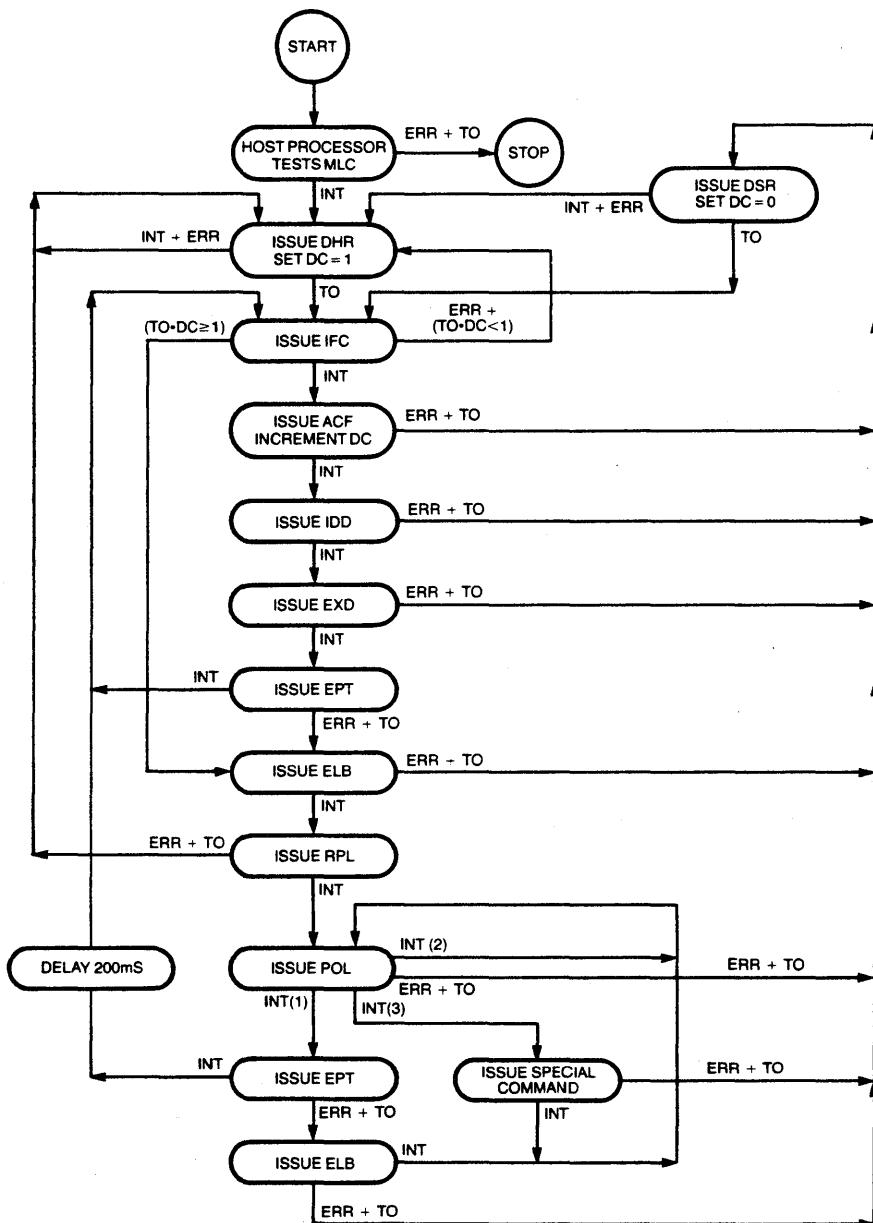

Figure 4-1. System Control Diagram
The control of the Link by the System is shown graphically in Figure 4-1. This diagram is not a state diagram, but is intended to show how the System deals with configuration, error recovery, polling, adding devices, and special commands. The notation used in Figure 4-1 follows:
### Notes for Figure 4-1:
Referring to Figure 4-1, the control process for HP-HIL can be broken up into four major areas of operation. These are configuration and error recovery, polling (data collection), adding devices to the Link, and handling special commands. Note that control of HP-HIL from the System is based upon timing or interrupts which cause the System to take action. Because of this, the controlling software will generally not be running continuously, but will be part of a larger interrupt driven environment. Thus, after an action has been taken, during the waiting for a condition to become true and cause the next action to be taken, the host processor will generally be doing other unrelated tasks.
At this point, the configuration process begins. This process can be seen as a loop in Figure 4-1, consisting of IFC, ACF, IDD, EXD, EPT, and back to IFC. The goal of the configuration process is to assign a unique address to each device on the Link, placing all but the last into Pass-Thru Mode. In the process each device may be requested to identify itself and report parameters necessary for scaling the device data to the System and utilizing any advanced features of the device.
Referring again to Figure 4-1, after the configuration of all devices has been completed, the next action to occur is the issuing of the RPL (RePoll). RPL is placed here as part of the error recovery process. If devices transmitted data, and an error occurred during polling, the Link would be reconfigured, and the lost data may be retrieved by the RPL command. If the Link is being configured for the first time, and polling has not yet started, the RPL command will not have any effect.
After the RPL command returns, the POL (Poll) command is sent. The System controlling the Link will remain in this oval most of the time. As explained above, polling can take place on a automatic (Auto Poll) basic or on an individual basis. To continue polling, control returns to the same oval, along the path marked with note (2). No other commands are required between polls. Errors or timeouts transfer control to the DSR oval at the top right of Figure 4-1. Two other conditions may cause polling to suspend. These are checking for added devices on the Link and processing special commands (e.g., Write Register).
When other commands are to be issued, the polling process is exited and the System then proceeds with the new command. This is shown in Figure 4-1 with control transfer occurring along the route marked with note (3). Other commands includes all those commands not explicitly shown in Figure 4-1, such as Register commands, Report commands, Prompts, Acknowledge, etc., and commands which are device specific. These commands are explained in Appendix A.
Errors may occur under various conditions on HP-HIL, and the correct System response to these errors varies as well. However, there are recovery procedures which apply to most situations, and these are described here. Refer again to Figure 4-1.